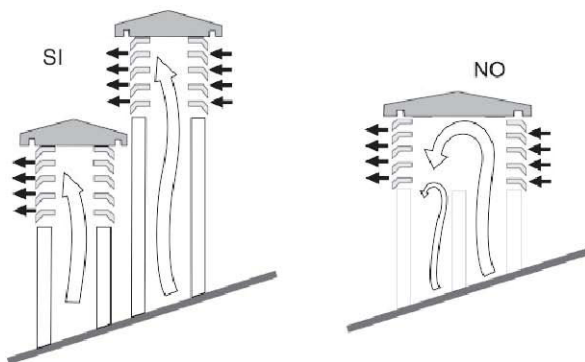

Fig. 3
- Whenever using parallel output chimneys, it is advisable to raise a bracing element. (fig.3).